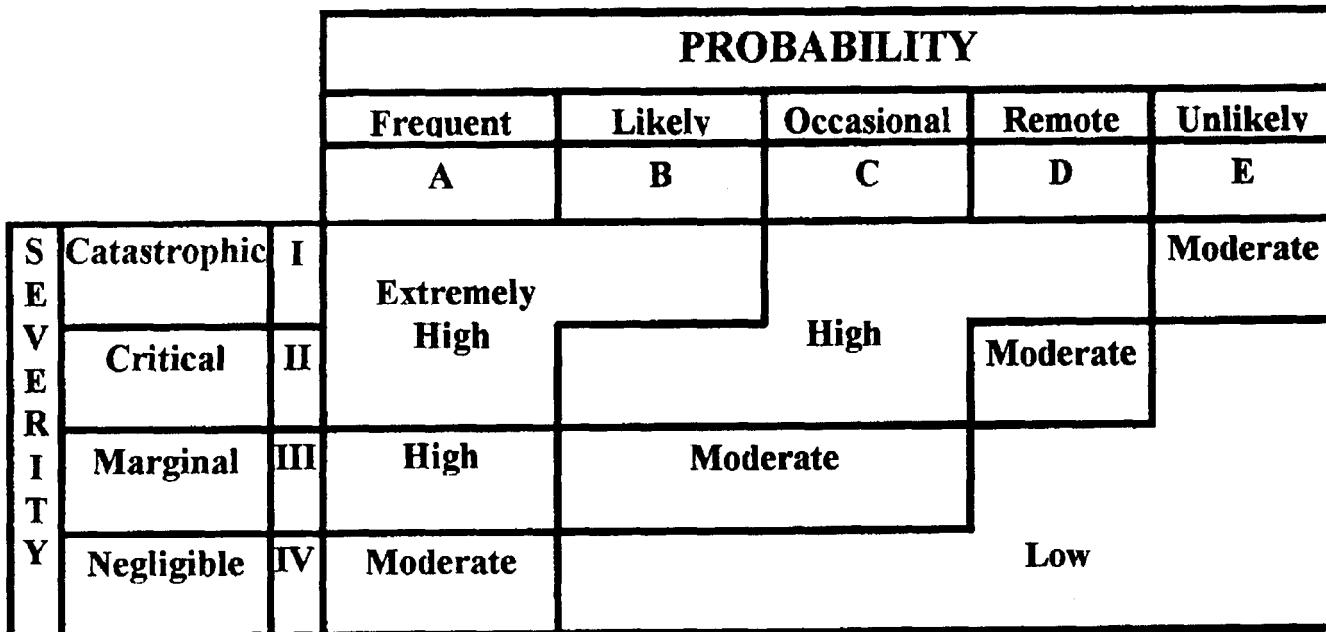

Figure 1-1. Risk assessment matrix.
2. Assess the probability and severity of the hazard(s) by utilizing the Risk Assessment Matrix in figure 1-1. Risk acceptance decision authority for the risk levels is as follows: